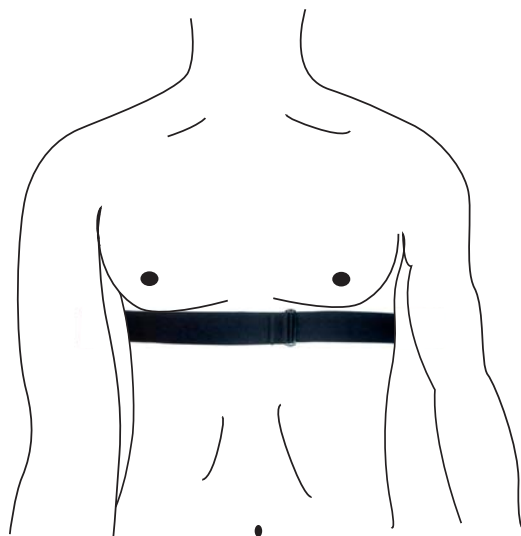

Figure 1
- Open the chest belt and apply it at the level of the sternum, making sure that the clasp and the belt loop point to you (Figure 1).